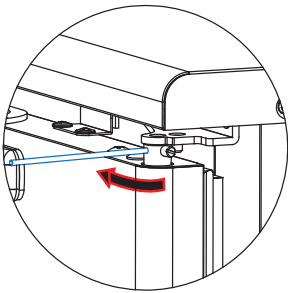

Fig 9-47
2. To remove the tension pin, slightly turn the stick in the direction of the arrow. Maintain the position of the steel stick by resisting the spring tension. (Fig 9-47)